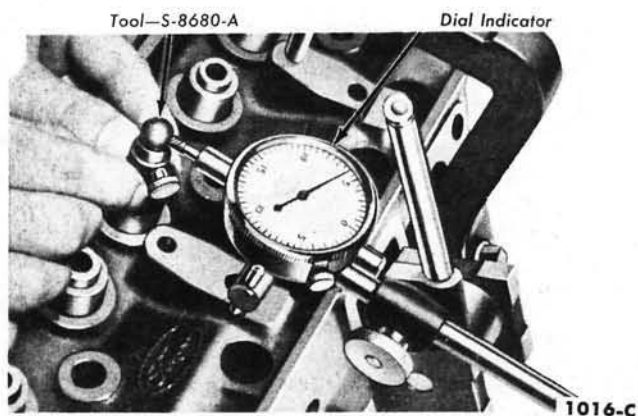

FIG. 12—Valve Stem Clearance—Typical
**Valve Stem Clearance.** Check the valve stem to valve guide clearance of each valve in its respective valve guide with the tool shown in Fig. 12 or its equivalent.